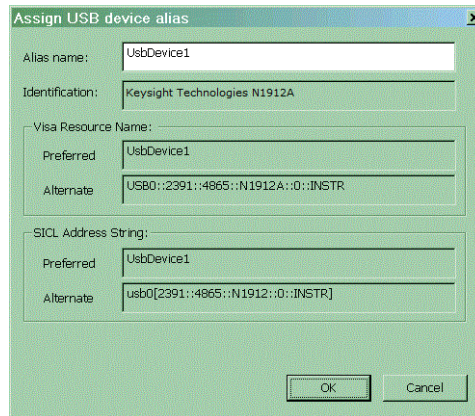

Figure 1-2 USB configuration complete
- 4 When the Wizard has completed configuring the power meter, a window appears on your PC, Figure 1-2 shows an example. If required, enter an **Alias** name to easily identify the power meter.